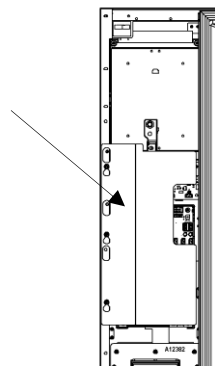

Fig. 3
- Remove harness clamps and cable ties retaining door harness to door. Remove control system cover where applicable (Fig.3) and disconnect door harness plugs from control board.